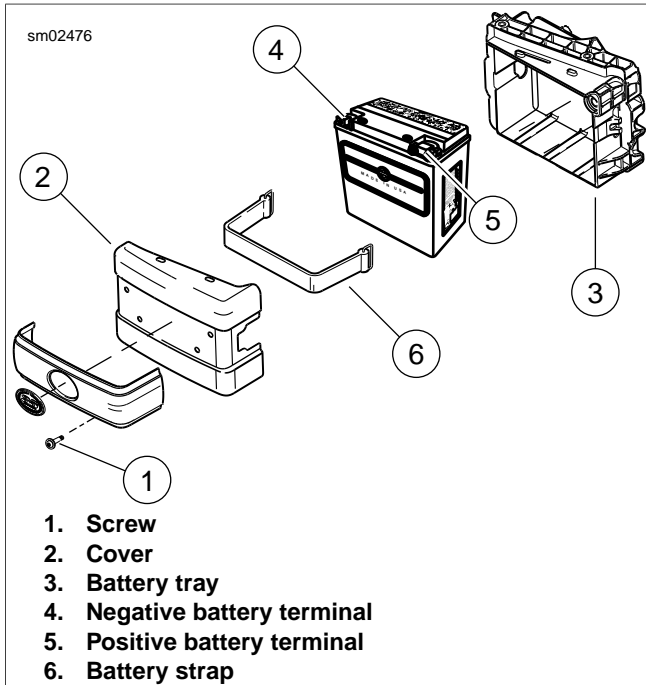

Figure 1-39. Battery Assembly
2. See Figure 1-39. Remove lower fastener (1).
3. Pivot cover (2) outward and lift to disengage slots on cover from projections on battery tray (3).
4. Unthread and remove battery negative cable from negative battery terminal (4).
5. Unbolt and remove battery positive cable from positive (+) battery terminal (5).
6. Remove battery strap (6).
- See Figure 1-39. With battery terminals facing outward, place battery in battery tray and install battery strap.
- Insert fastener through battery positive cable terminal and into threaded hole of battery positive (+) terminal (5). Tighten fastener to 60-70 **in-lbs** (6.8-7.9 Nm). Place battery terminal cover over positive battery terminal.
- Insert fastener through battery negative cable terminal into threaded hole of battery negative (-) terminal (4). Tighten fastener to 60-70 **in-lbs** (6.8-7.9 Nm).
5. Place slots on battery cover (2) on projections on battery tray (3). Install screw (1) to secure cover.